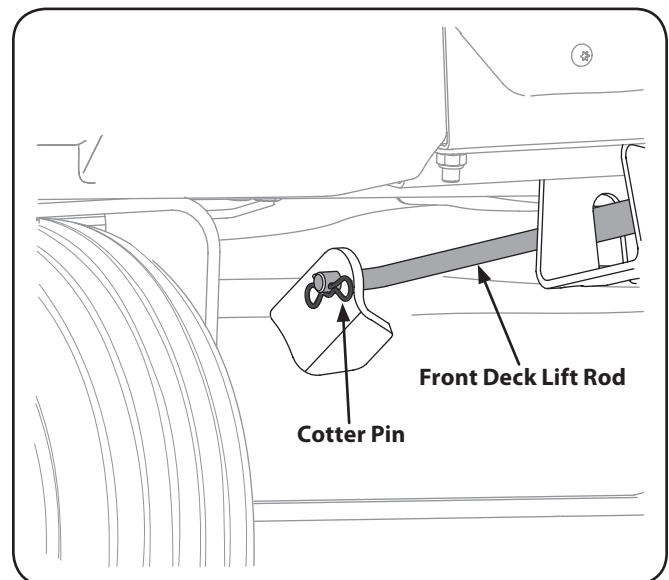

Figure 7-5
7. Pull the cotter pin out of the front deck lift rod securing it to the deck. See Figure 7-5. Slide the deck lift rod out of the front hanger bracket.
6. Reinstall the front deck lift rod and secure in place with the cotter pin. Refer to Figure 7-5.